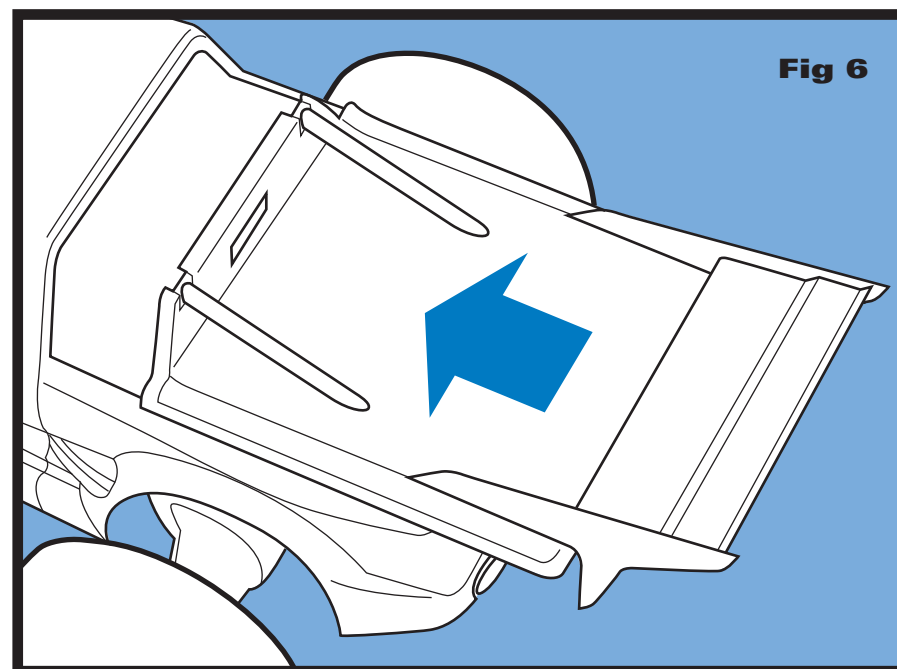

Fig 6
4. Replace BATTERY LID and press into place until LATCH secures it in place. (Fig. 6)